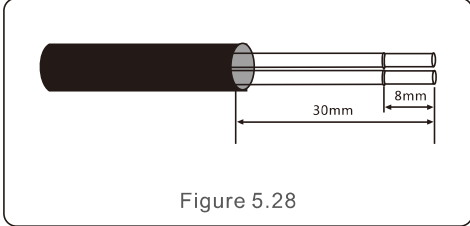

Figure 5.28
- a. Use a wire stripper to peel off the insulation layer of the communication cables to a certain length as shown in Figure 5.28.